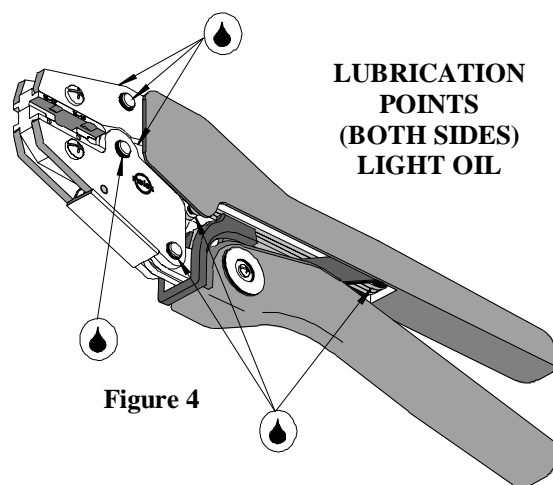

Figure 4
3. Make certain all pins; pivot points and bearing surfaces are protected with a thin coat of high quality machine oil. Do not oil excessively. The 64001-4100 (RHT-FIG) was engineered for durability, but like any fine piece of equipment, it needs cleaning and lubrication for a maximum service life of trouble-free crimping. A light oil, such as 30 weight automotive oil used at the oil points shown in Figure 4, every 5,000 crimps or 3 months will significantly enhance the tool life and ensure a stable calibration.